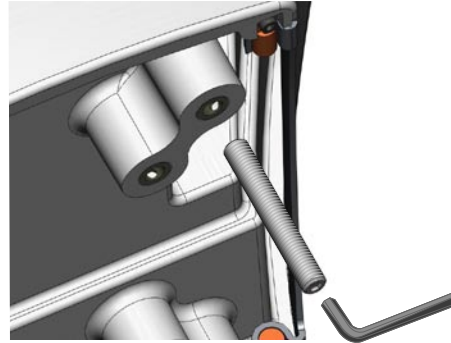

Figure 2
2. Use a 5 mm Allen wrench, to install the M10 x 71 mounting studs (Figure 2) in the pedestal matching the hole pattern that was selected. Tighten the mounting studs until they bottom out in the pedestal. Do not overtighten the studs to avoid damaging the pedestal. The mounting studs have a thread-locking patch applied at the factory.